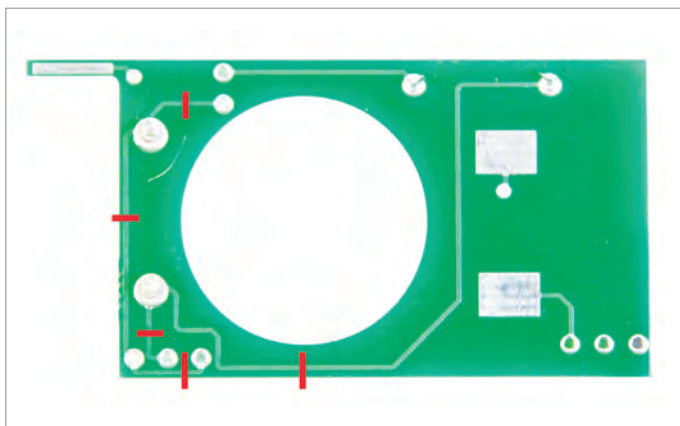

Abb. 25: Cut the circuit traces on the universal board; solder the batteries
- ▶ Using a craft knife, cut through five of the traces on the top side of the universal circuit board as shown Abb. 25.